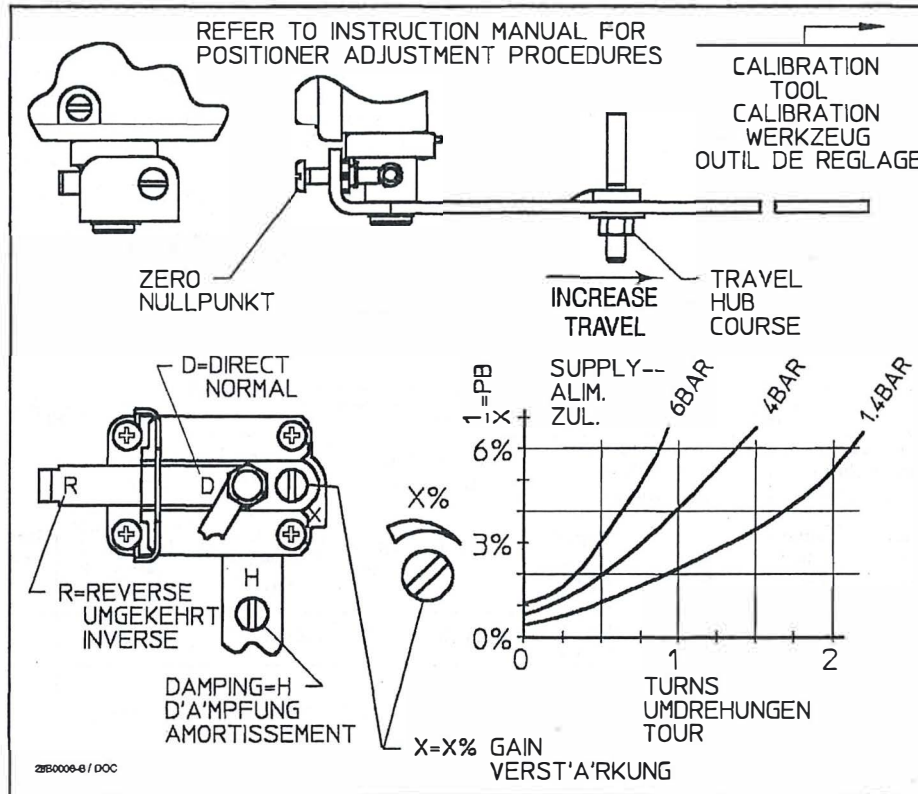

Figure 19. Adjustment Locations (Equivalents of Pressures Shown in This Drawing are: 6 bar = 86 psig, 4 bar = 58 psig, and 1.4 bar = 20 psig)
Refer to figure 24 (Type 3660) or figure 25 (Type 3661) for key number locations unless otherwise indicated. Adjustment locations are shown in figure 19.
6. Remove the calibration tool (key 6) from the cover. Place the calibration tool between the lever assembly (key 17) and the input diaphragm assembly (key 28). When making the following adjustment, apply manual pressure to the lever assembly over the input diaphragm assembly to hold the calibration tool in place. Loosen the lock nut (key 57), and turn the adjusting screw (key 18) until the output is $50\% \pm 10\%$ of supply pressure. For example, if supply pressure is 2.4 bar, set the output to $1.2 \text{ bar} \pm 0.24 \text{ bar}$.
7. Lock the adjusting screw (key 18) with the lock nut (key 57). After the adjustment is complete, remove the calibration tool and replace it in the positioner cover.
10. Remove the cover (key 19T) from the feedback lever assembly (key 19).
11. Set the travel (span) adjustment to the desired actuator travel by loosening the hex nut (key 19D) and sliding the pilot shaft (key 19A) to the desired setting on the feedback lever assembly (key 19). The travel settings are marked in millimeters on the feedback lever assembly.
12. Set the gain (PB) adjustment and/or the output volume damping adjustment to a setting that provides the best actuator/positioner response. Observe the gain dependency on the air supply pressure as shown in the graph of figure 19. The gain adjustment restrictor for air delivery should be fully open for large size actuators and adjusted to a mid-value for smaller size actuators with 225 cm^2 (35 square inches) or less diaphragm area. Start by setting the gain adjustment at approximately one turn open, and, if the output volume damping adjustment is used, turn it clockwise to decrease the air delivery.
13. Adjust the valve stem position by rotating the zero adjustment screw (key 19S).